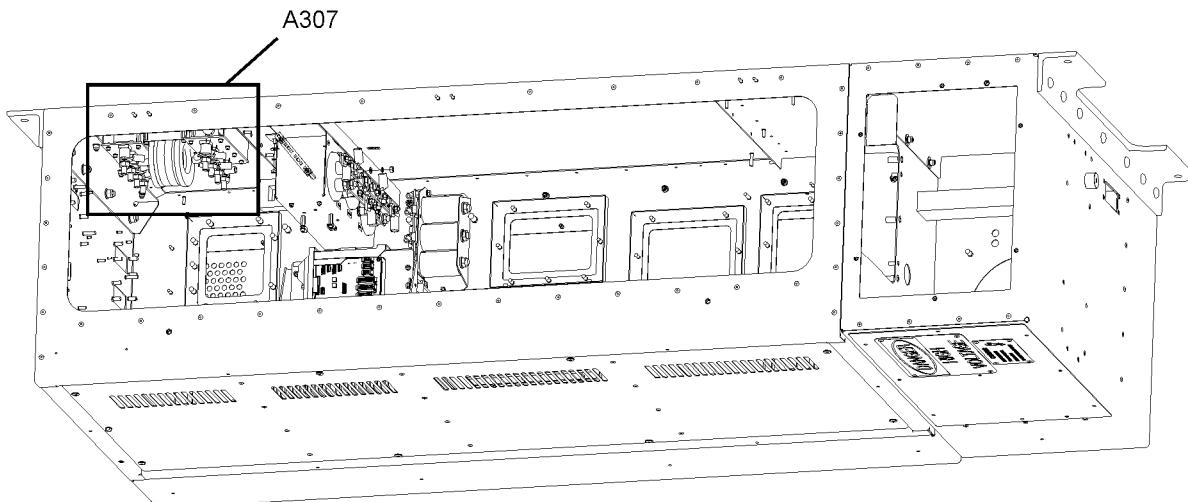

Figure 5-25: Location of A307
3. Locate A307. See Figure 5-25 for the location of the A307.